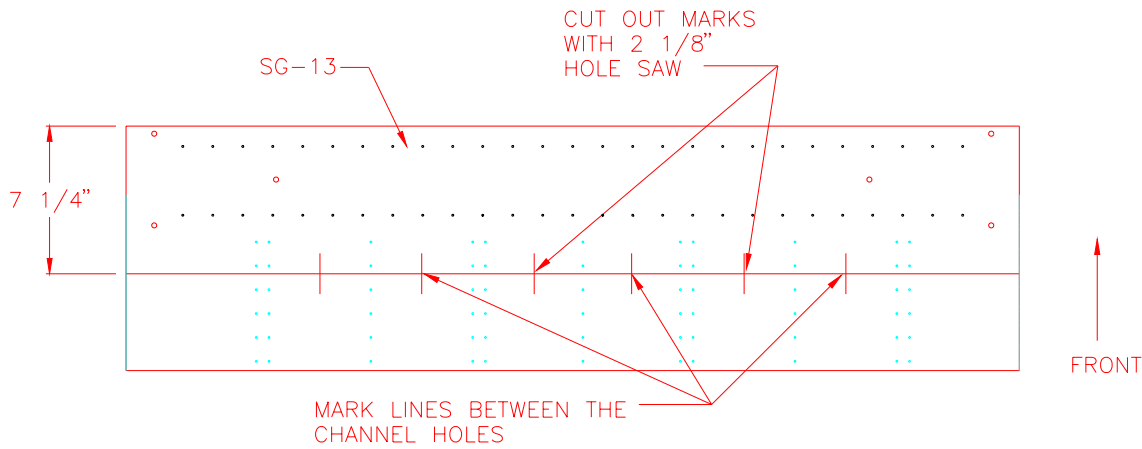

Figure 14.1.5
12) Next, you will lighten the SG-13 by sculpting out the part. First mark a parallel line from the top edge 7 1/4" down on the part. See Figure 14.1.5.
13) On that line mark six lines on the centers between each of the channel rows as per Figure 14.1.5. Cut out these marks with a 2 1/8" hole saw.